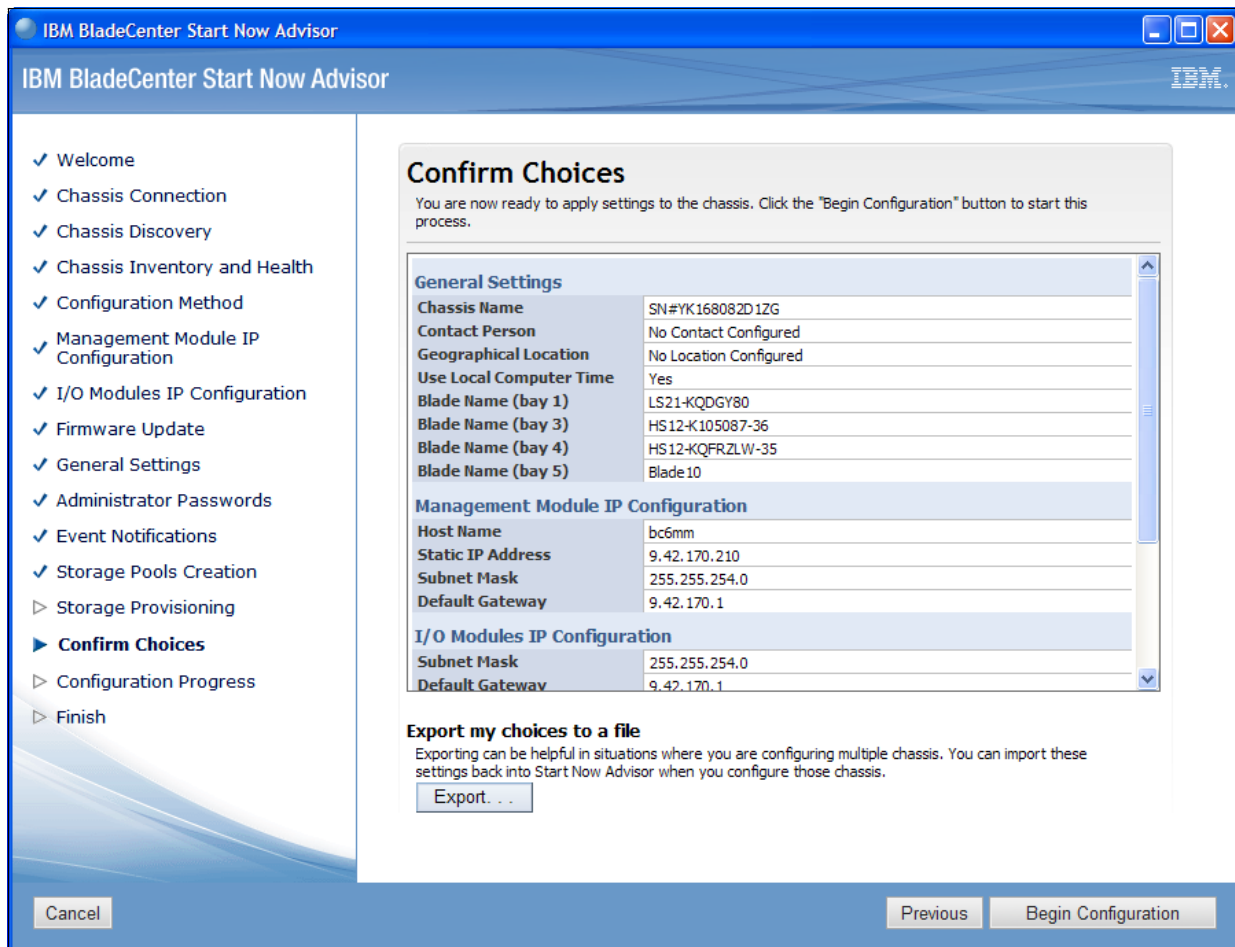

Figure 2-13 Confirm the configuration settings
13. Review the information on the “Summary and Confirmation” panel (Figure 2-13).